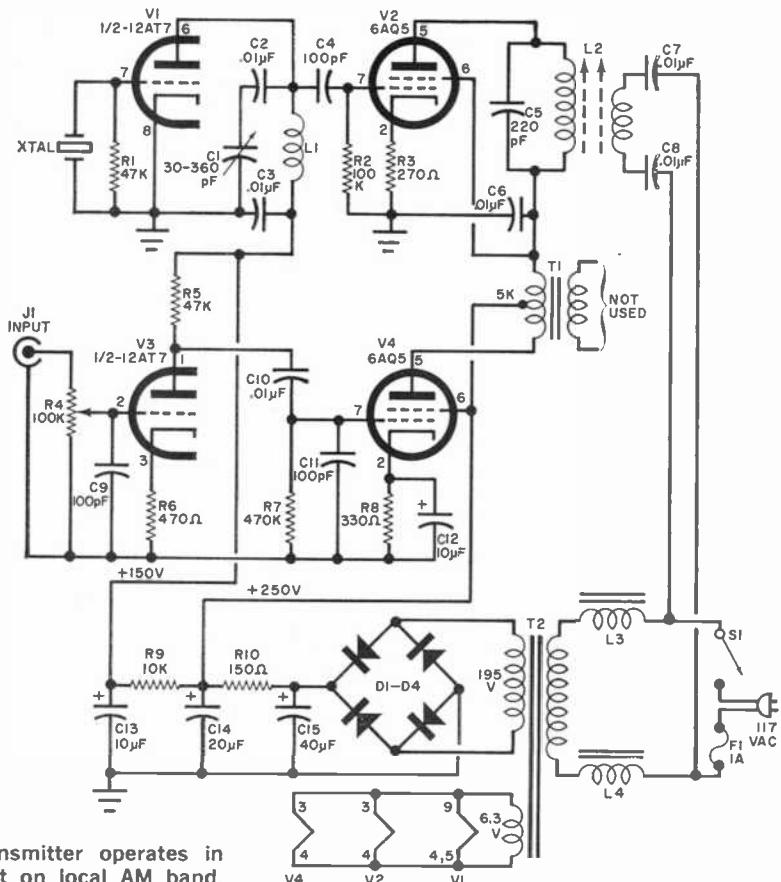

Fig. 1. Transmitter operates in a quiet spot on local AM band.
**How It Works.** A schematic of the transmitter is shown in Fig. 1. Tube V1 is used as a crystal-controlled oscillator operating at a quiet spot in the local broadcast band. The r-f signal is then amplified by V2 and coupled to the power line through capacitors C7 and C8. The audio section starts with V3, connected as a conventional voltage amplifier which drives modulator V4.